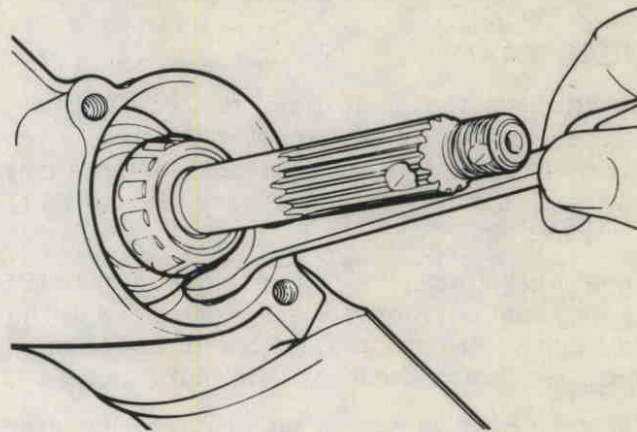

Figure 52. Removing Nut and Lockwasher from Stud.
- A. Remove nut and lockwasher from stud. Figure 52.